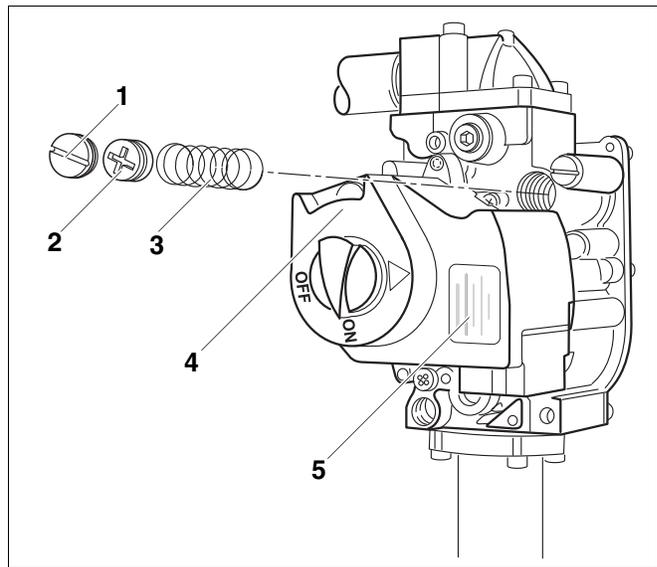

Fig. 4 Gas valve
11. Screw in the new orifice pressure adjustment screw from the Honeywell LP conversion kit until it is flush with the top edge of the pressure adjustment. Then screw the manifold pressure adjustment screw six (6) revolutions clockwise. This sets the pressure to about 10.0 in W.C. This setting must be checked with a pressure gauge when the conversion is complete.
13. Clean the housing of the gas fitting (→ Fig. 4) and attach the yellow label (→ Fig. 4) from the Honeywell LP conversion kit to the gas valve in a conspicuous position.